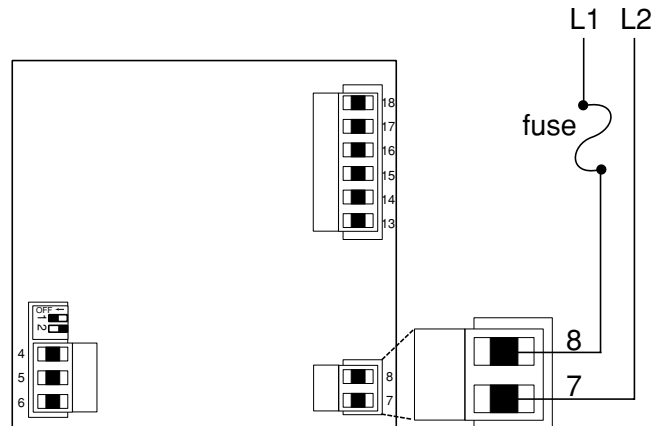

Figure 5 - Power wiring.
5. Adjust the mounting bracket screws enough to allow for the mounting collar and panel thickness. Snap the upper and lower mounting brackets on the case of the controller (**Figure 5 b**). Make sure all the grips are well engaged on the mounting slots of the controller. (The four screw heads are facing the back of the controller.)